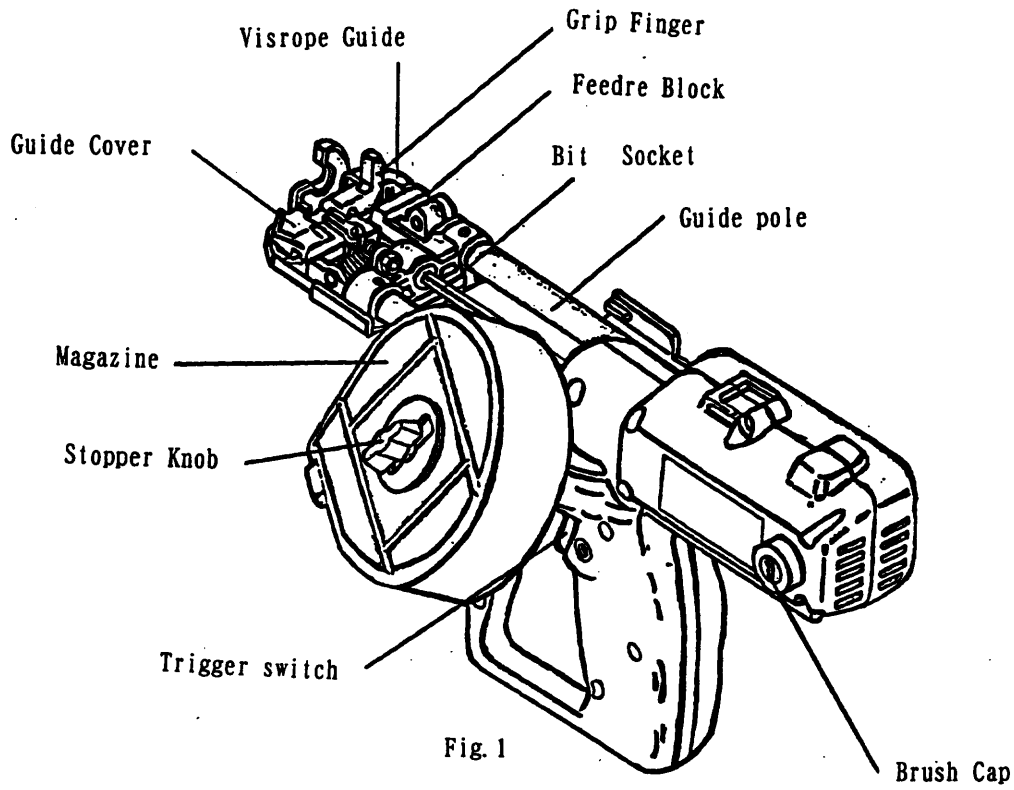

Fig. 1
- (b) To ensure that the grip finger, guide cover and guide poles (see fig.1) slide smoothly, regularly apply 2 - 3 drops of a high grade lubricating oil.